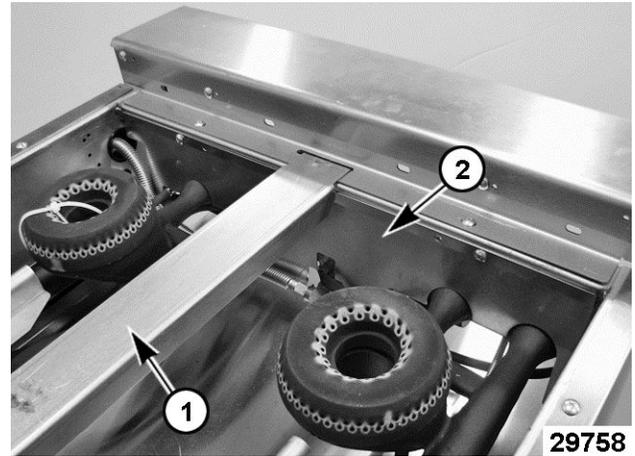

Fig. 100
5. Lift grate support (1, Fig. 100) from range top.
6. Remove heat shield (2, Fig. 100).